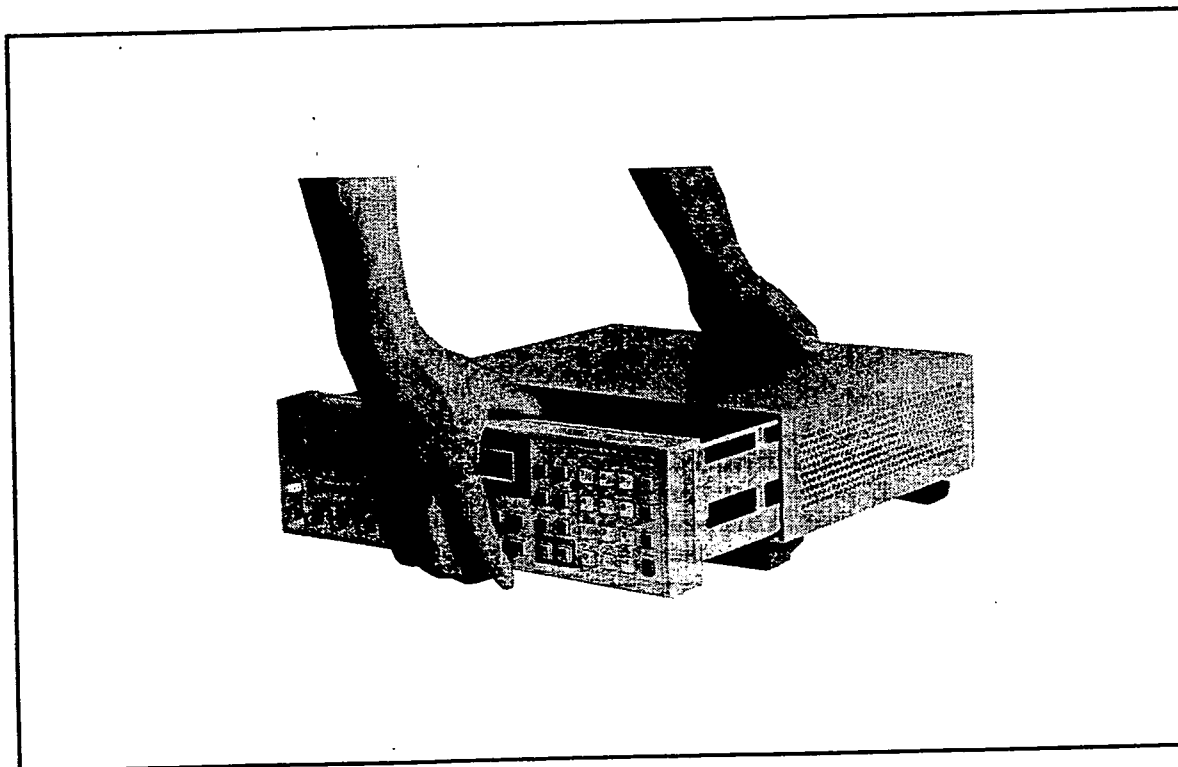

Figure 3-1. Cover Removal
2. Slide the cover toward the rear while holding the front panel bezel as shown in Figure 3-1.